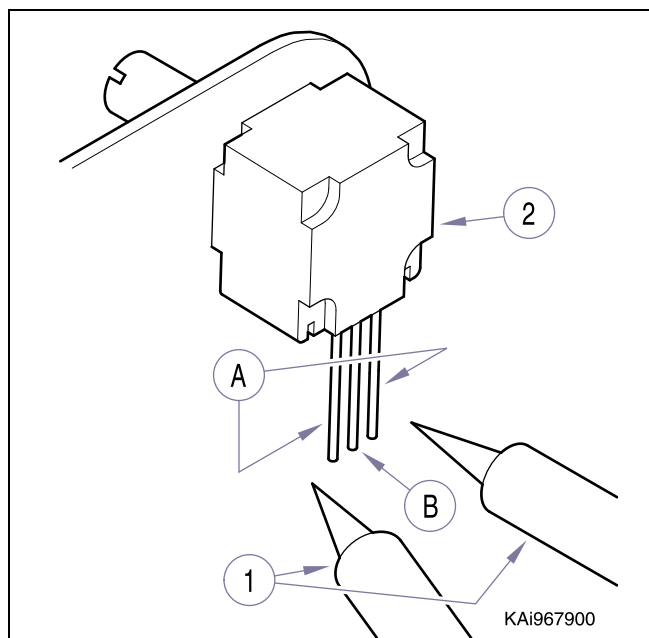

Figure 2-8. Testing Potentiometer.
- (1) Disconnect power to chair and remove upholstery or covers whichever is applicable to access potentiometer (refer to para 4.16 or 4.17).
- (2) Set VOM on resistance (ohms) for a scale that can read up to 6K ohms.
- (3) After removing plug connector, place meter probes (1, Fig. 2-8) on outside leads (A) of potentiometer (2) for total resistance. Reading should be 4K to 6K (ohms). Any reading outside this or if no continuity reading is present, replace potentiometer.